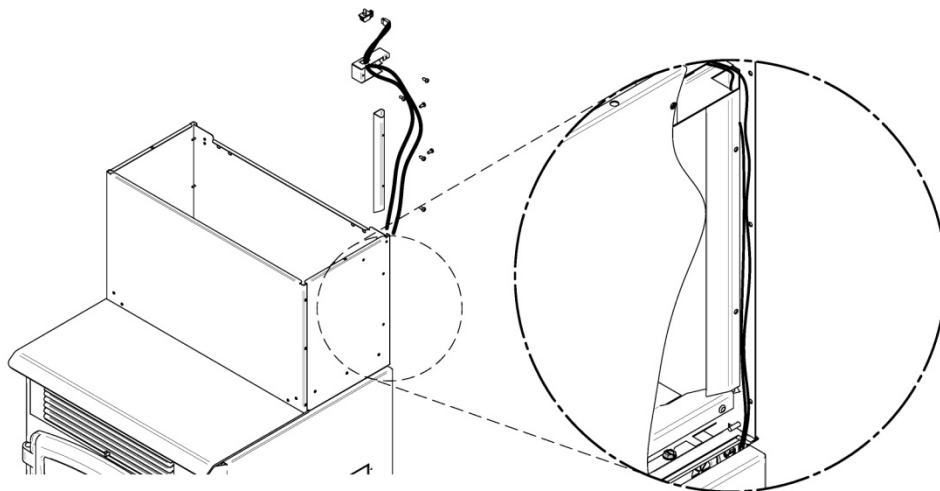

Figure 8.1
Step 8 : Plug the supplied extension cord on the security switch wire that you unplugged in step 3 and run it inside the channel (refer to figure 8.1).